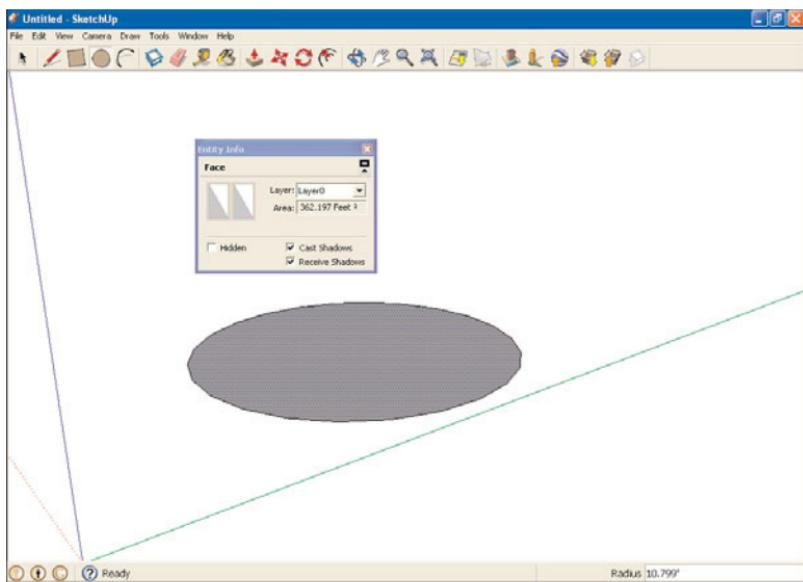

FIGURE 3.10 Getting shape information.
3. Right-click the shape and select the **Entity Information** menu item. When you do, you get an information box showing information about the shape, as shown in Figure 3.10.